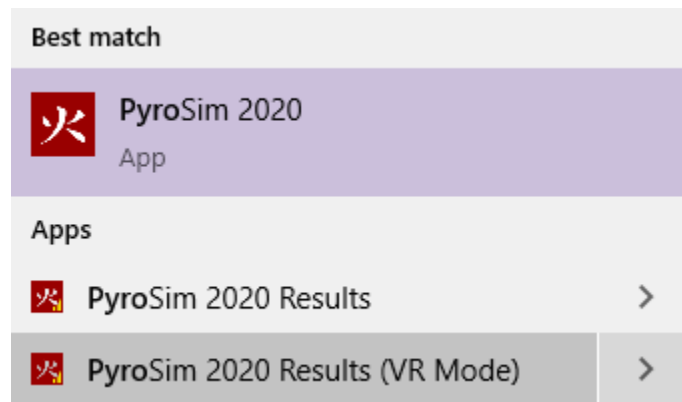

Figure 39. Shortcut Menu
3. While not wearing the headset, run Results using the PyroSim VR Mode shortcut from the Start menu Figure 39.